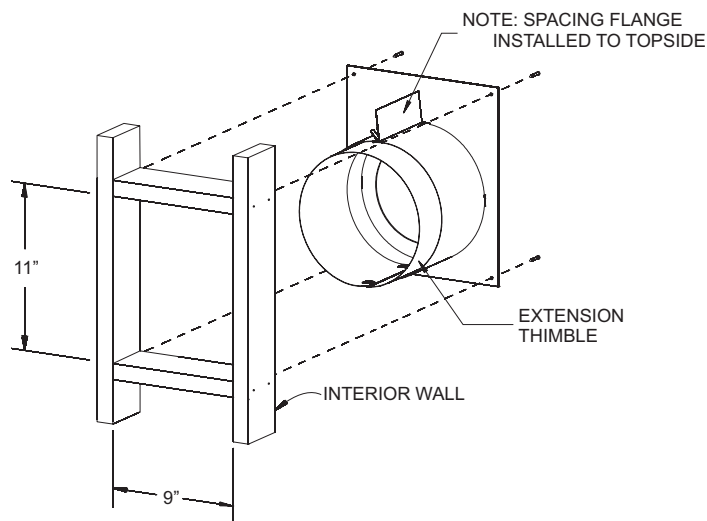

Figure 27
2. Cut hole in wall for wall thimble/firestop assembly into your combustible wall. **See Figure 27.** Note: On brick or block exterior wall a 7" (178mm) diameter hole needs to be cut.
Measure the total wall thickness to determine whether or not the extension thimble is to be used. If the combustible wall depth is over 5 3/8" (137mm), then the extension thimble should be used. **See Figure 27.**
3. Install the wall thimble assembly through the framed opening so the firestop plate is on the interior wall. **See Figure 27.** Telescope section should extend all the way through the exterior wall. Attach with (4) 10 x 1" screws.